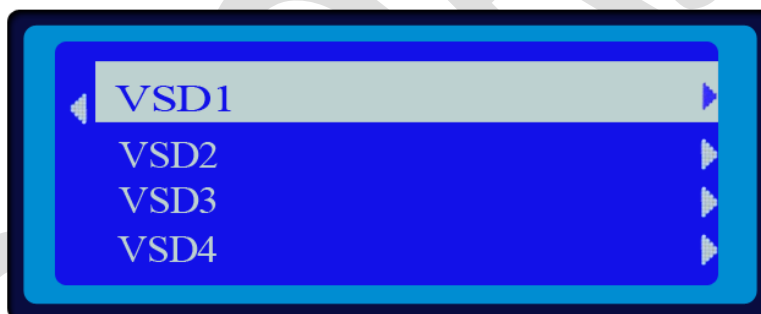

Fig 32: The Bi-dir Test Screen
4. Select the **VSD3** option from the above screen (Refer to Fig 32). The Bi-Dir VSD 3 screen appears as shown below: